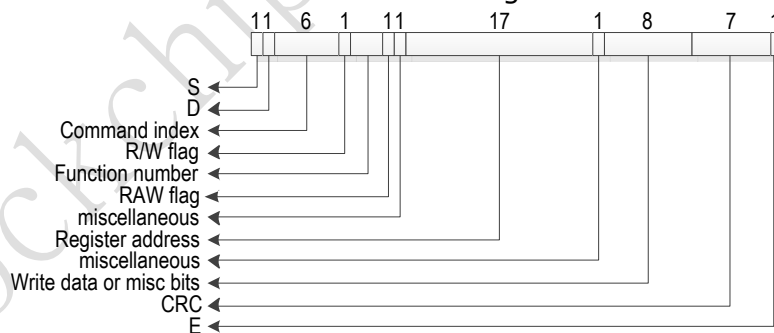

Fig 10-3 Command format for CMD52
- Send ABORT command – Can be used with only an SDIO_IOONLY or SDIO_COMBO card. To abort the function that is transferring data, program the function number in ASx bits (CCCR register of card, address 0x06, bits (0-2) using CMD52. This is a non-data command. For information on sending this command, refer to “No-Data Command With or Without Response Sequence”. The command format for CMD52 is illustrated in Fig. 10-3: